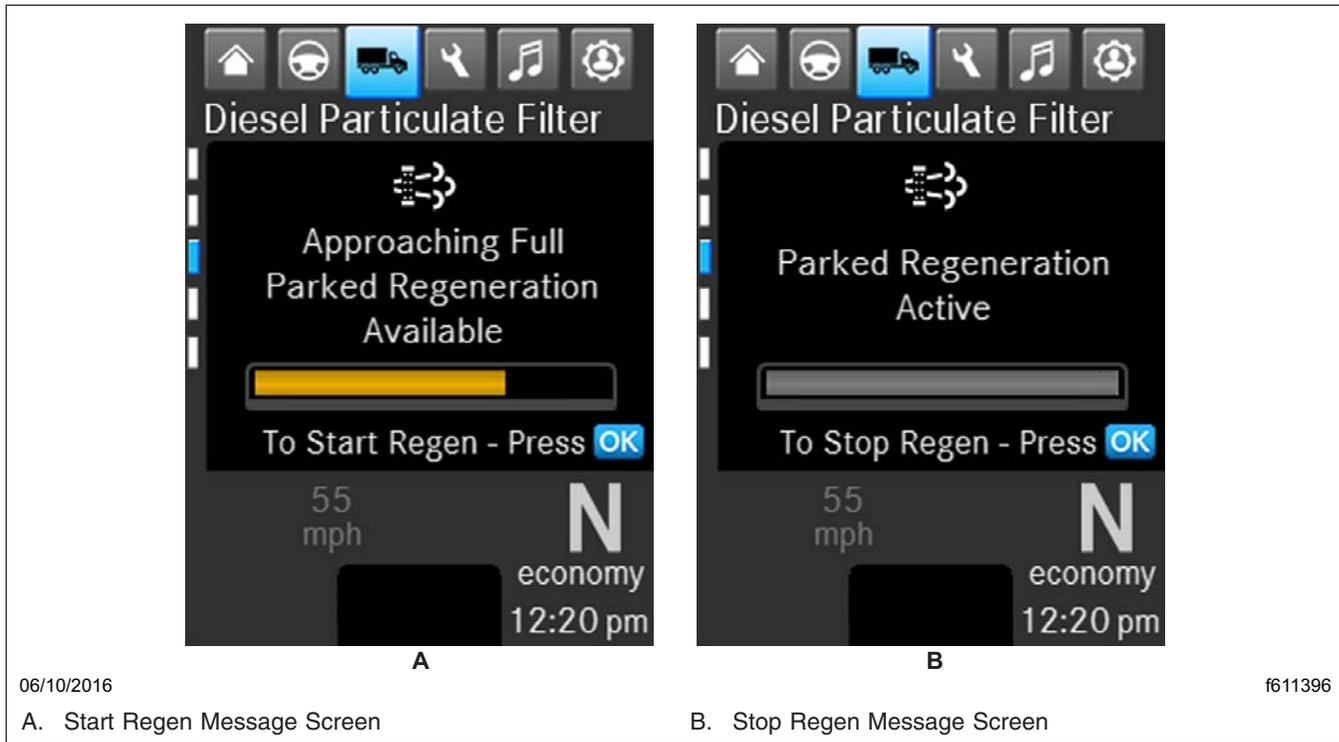

Fig. 14.2, Parked Regen Message Screens
When operating conditions do not allow for ATD filter cleaning by active or passive regen, the vehicle may require a driver-activated **parked regen**. When this occurs, the driver display screen presents a message indicating that a regen is required. See Fig. 14.2. The driver must either bring the vehicle up to highway speed to increase the load (thus starting an active regen), or park the vehicle and initiate a parked
Parked regen is initiated by selecting OK when the driver display screen shows "Parked Regen Required." See Fig. 14.2. If the vehicle is equipped with the optional digital STOP REGEN switch, parked regen can be stopped by selecting OK while the regen is in progress. See Fig. 14.2.
3. Select OK when the DPF screen is displayed on the driver display screen. See Fig. 14.2. Select OK again to confirm regen. As the regen process is initiated, engine rpm increases and the HEST lamp illuminates to indicate extremely high exhaust temperatures.